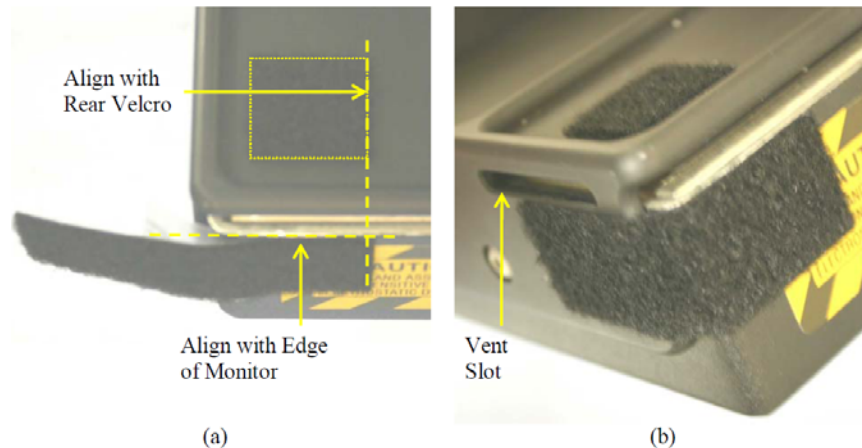

Figure 4.- 3" Long Velcro Installation.
2.6.2 Align edge of 3" Long Velcro "Loop" side with edge of newly installed 1" Square Velcro according to Figure 4(a). Align top edge of 3" Long Velcro with back edge of the display portion of the RWS Video Monitor ORU according to Figure 4(a).
2.6.4 Align edge of 3" Long Velcro "Loop" side with edge of vent slot. Apply pressure to adhere 3" Long Velcro to RWS Video Monitor ORU. Refer to Figure 4(b).